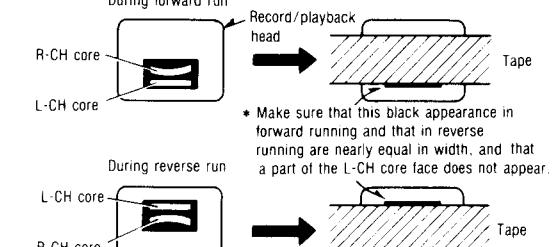

Fig. 5
Make fine adjustments of the erase head height and tape guide height adjustment screws as necessary, to attain on the recording/reproducing head face the tape position shown in Fig. 5.
5. Run the tape in the forward play mode and check it for zigzag running. (Shown in Fig. 5)
7. Repeat steps 5 and 6 two or three times and verify that the tape position shown in Fig. 5 is ensured.